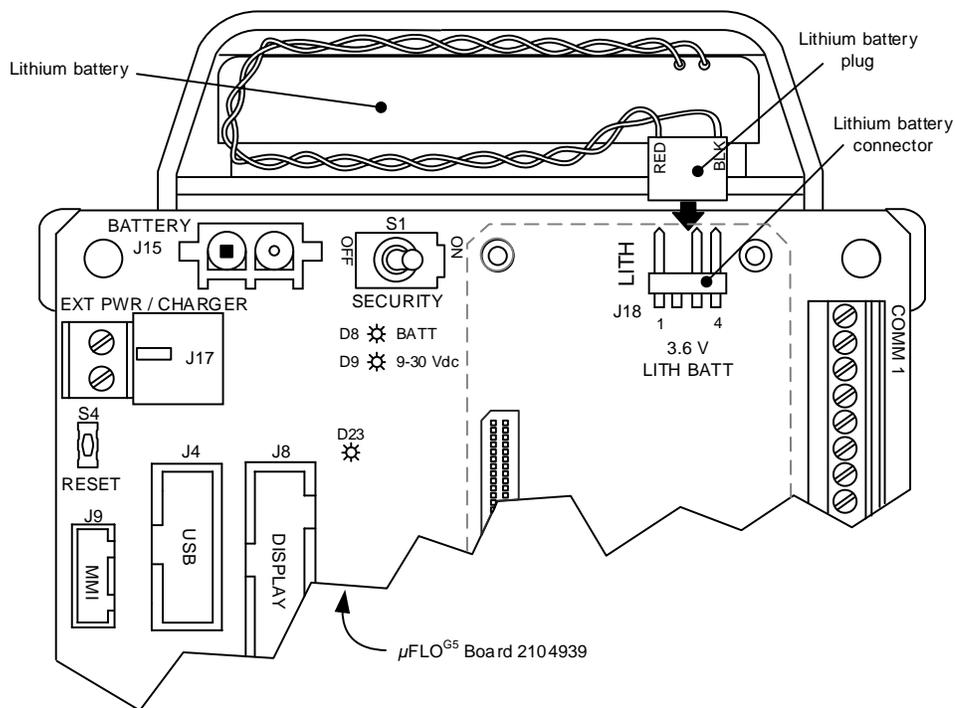

Figure 25: Lithium battery and connector
2. Plug the lithium battery cable onto the LITH onboard connector (J18) so that the red wire is making a connection to pin 1 and the black wire is making a connection to pin 4 (Figure 25).